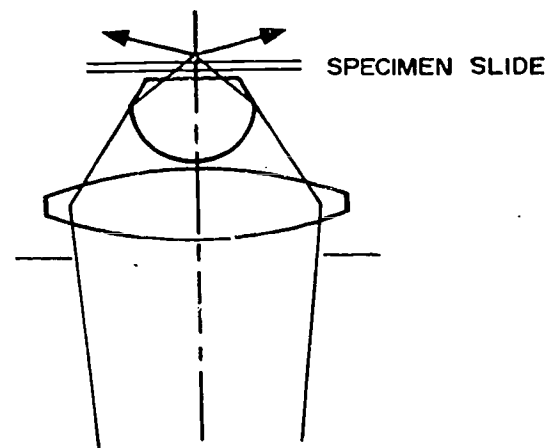

Figure 1-32. Abbe condenser.
700. State the purpose of the substage condenser, list the three most commonly used condensers, and clarify separately (1) why the Abbe condenser is used most widely for general microscopy and (2) why the achromatic condenser is recommended for color photomicroscopy (figs. 1-32 to 1-34).
The Abbe condenser (fig. 1-32) is a 1.25 N.A. condenser composed of only two lenses. It is simple, yet it has such excellent light gathering capabilities that it is the one most widely used for general microscopy. Its lack of correction for chromatic and spherical aberrations does not materially interfere with its use for visual observations.